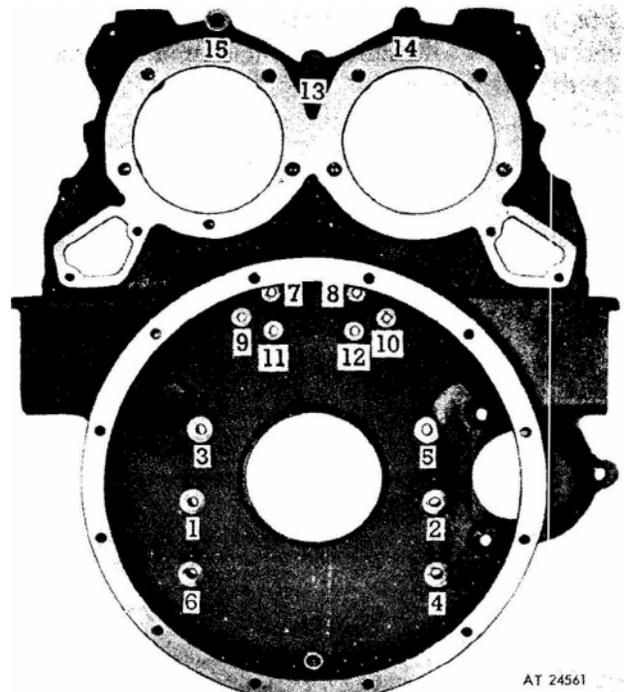

Figure 4. Flywheel housing bolt tightening sequence (operation 2)—in-line engines.
9. Refer to figure 4 for the final bolt tightening sequence on an in-line engine; then, start at No. 1 and tighten the bolts to the specified torque Tighten the 5 16"-18 bolts (numbers 11 and 12) to 19-23 lb-ft torque and the 3/8"-16 bolts (numbers 7 through 10) to 40-45 lb-ft torque. Tighten the remaining 3/8"-16 and 1/2"-24 bolts to 25-30 lb-ft torque. Tighten the two 5 16"-18 bolts that secure the top of the governor to the flywheel housing to 10-12 lb-ft torque.